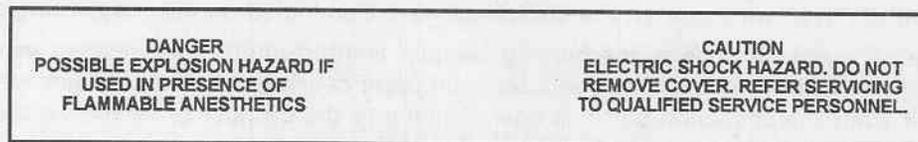

Figure 1-9. Front panel imprinting.
(7) Imprinting (located on the front panel of the control/pump module) providing danger and caution notices are depicted in figure 1-9.